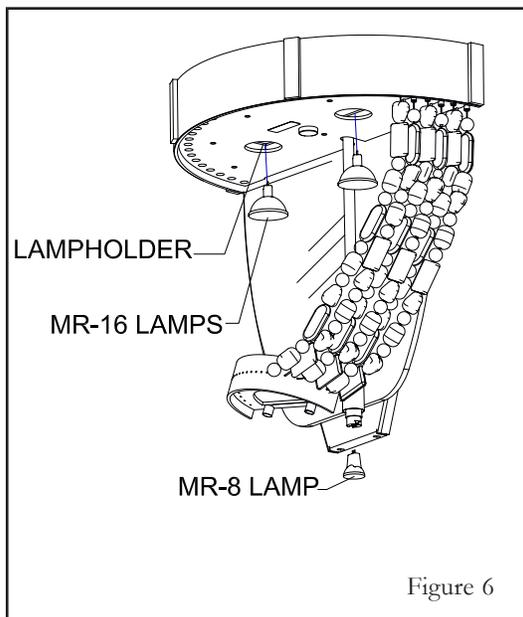

Figure 6
Step 8 Install lamps per relamp label recommendations, there will be MR-16 lamps in the upper cluster and one MR-8 in the downlamp assembly. (See Figure 6)